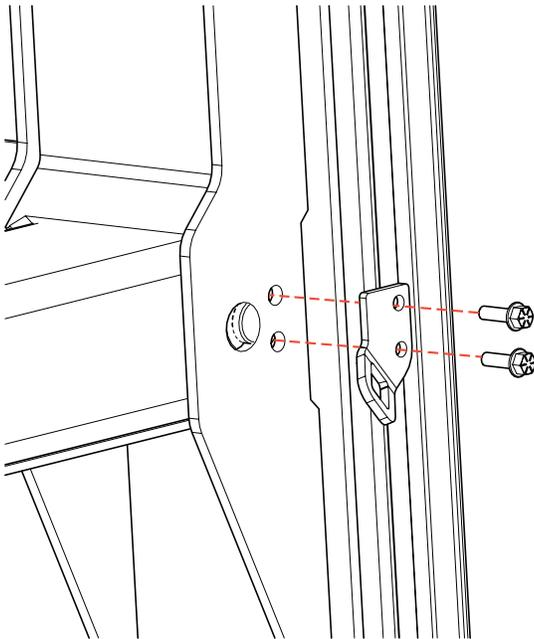

Figure 2: Install the new retainer plate and use the existing bolts to secure it.
7. Line up the new retainer plate assembly (P/N 1515388) to the existing holes on the mast (see Figure 2). Use the existing bolts to secure the plate to the mast. Use a torque wrench to torque the bolts to 35 ft-lbs.